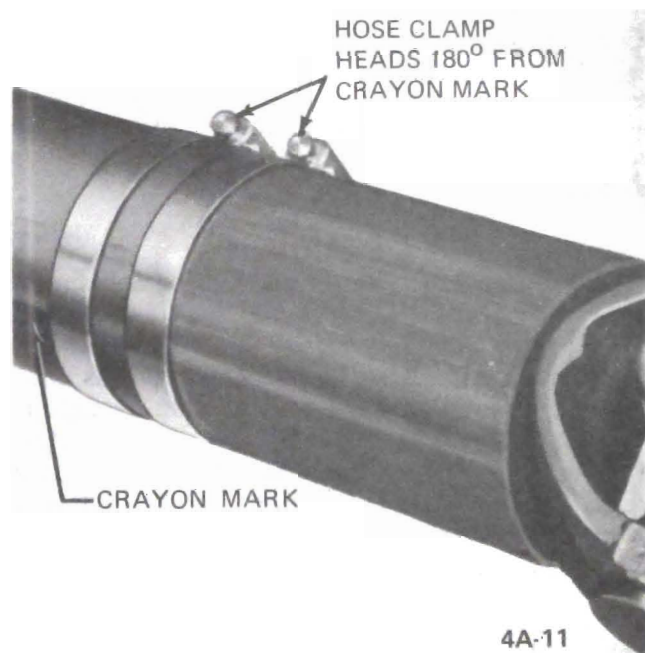

Figure 4A-11 - Balance Hose Clamps in Place
2. Mark and number propeller shaft at four (4) points 90 degrees apart at rear of shaft just forward of balance weight.
3. Install two (2) Wittek type hose clamps on the rear propeller shaft and slide them rearward until the clamps stop at the nearest balance weight welded to the tube. Align both clamps to any one of the four marks made on shaft in Step 2. Tighten the clamps. See Figure 4A-11. Be sure sufficient clearance is maintained so that clamp heads do not contact floor pan of car when axle is in contact with rebound bumper in frame. In order to gain sufficient clearance, it may be necessary to position the clamps over the balance weights.